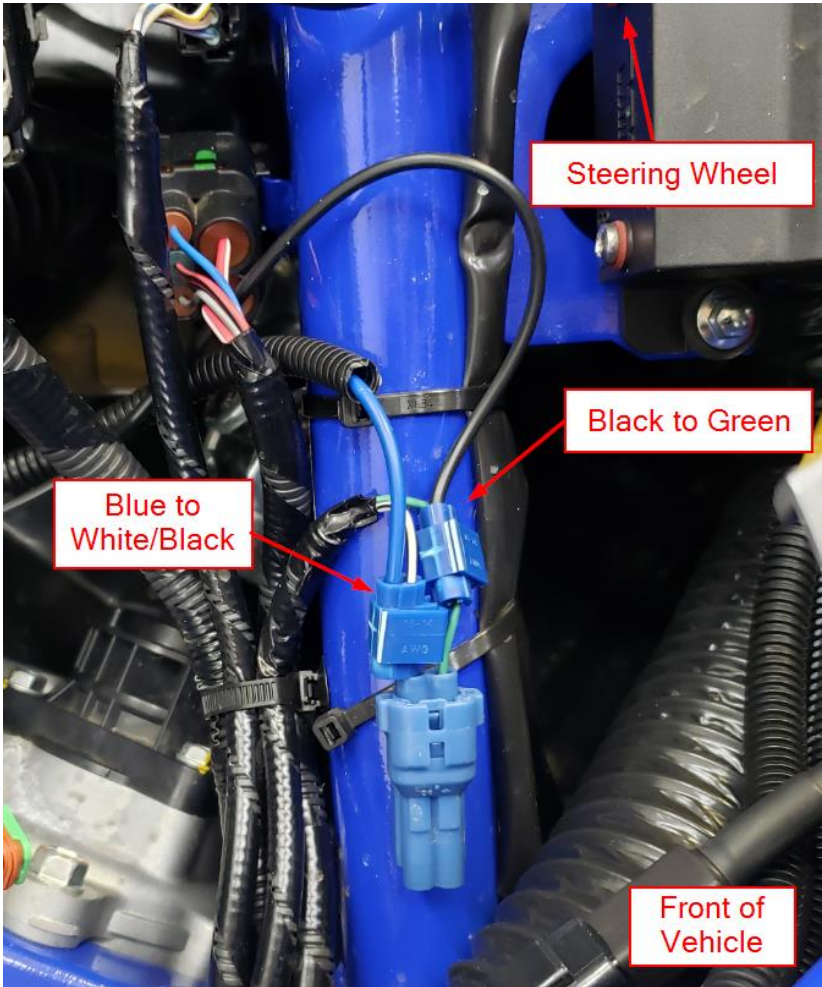

Figure 23
- c. Route the Blue and Black wires of the harness to the auxiliary connector mounted to the vehicle frame on the driver side as shown in Figure 23. Connect the Blue Wire to the White/Black wire and the Black wire to the Green wire using the blue insulation displacement crimps.